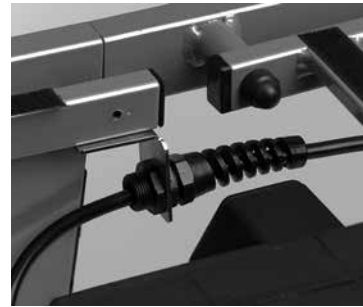

*Fig. 8*
8. Connect the lying surface with the base frame in such a way, that the ball bearing of the top section of the base frame fits right into the u-channel at the bottom side of the lying surface. (Fig. 8).